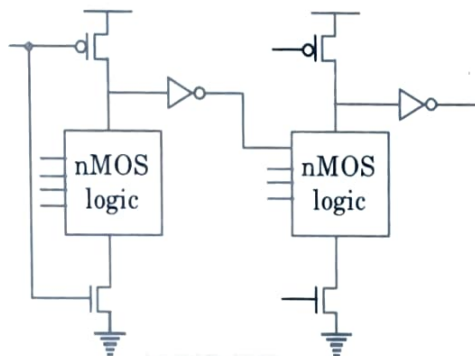

Fig. 3.8.2.
5. Now consider the case for cascading domino CMOS logic gates as shown in Fig. 3.8.2.